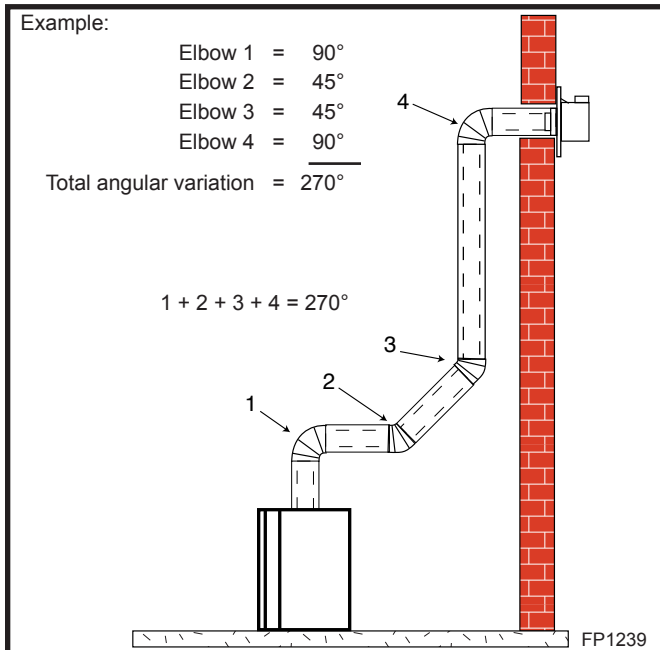

Fig. 20 Maximum number of elbow degrees.
- The maximum number of elbow degrees in a system is 270°. (Fig. 20)